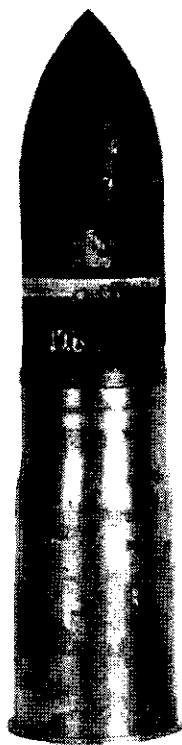

Figure 148.—75-mm armor-piercing round.
(3) *Armor-piercing.*—The armor-piercing round (fig. 148) is shorter than the high-explosive round and is painted black with a white band below the bourrelet.